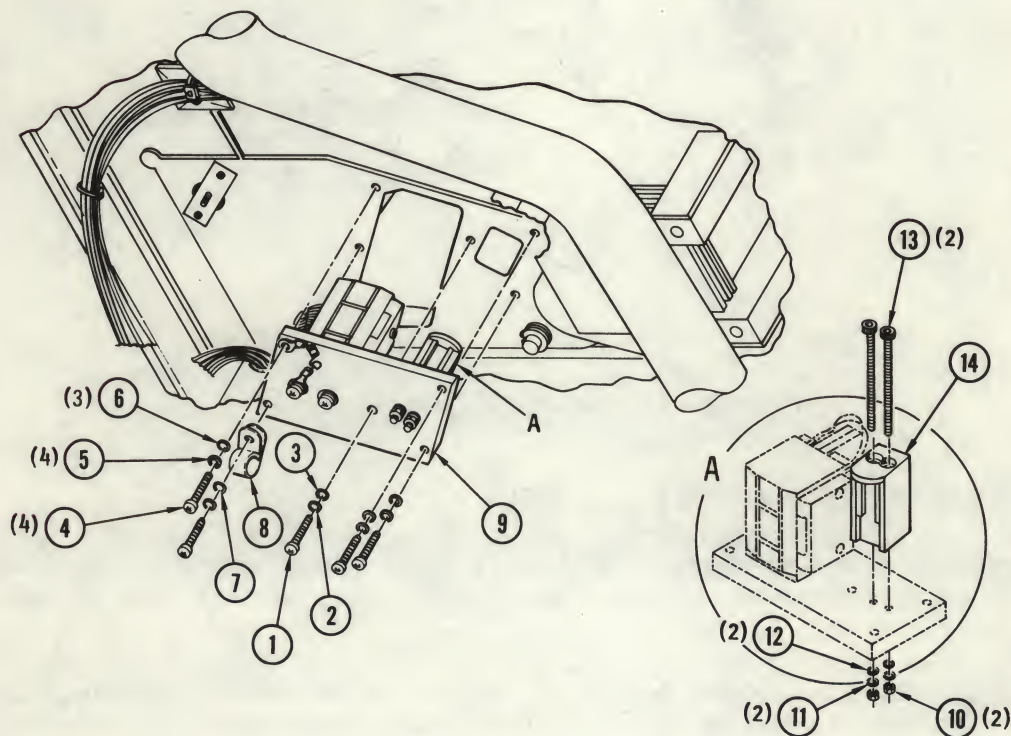

Figure 4-10. Head Assembly
4-24. **Removal and Replacement of Assembly and Parts (Figure 4-10).** Place the transport in service access position in accordance with instructions in paragraph 4-3 and proceed as follows:
It is not necessary to remove complete assembly from top plate in order to remove tape scraper (14, Figure 4-10). Refer to paragraph 4-24, f. If head is defective and in need of replacement, entire head assembly (9), including tape scraper (14) must be replaced.
- b. Working from under side of top plate, remove center adjustment screw (1), lockwasher (2), flat washer (3), four screws (4), and lockwashers (5), three flat washers (6), one flat washer (7), and cable clamp (8) supporting assembly (9) with one hand as last screw is removed. Identify wire terminal and cable clamp as to position from which removed, and save attaching parts for reinstallation.
- c. Pull assembly (9) and wire harness carefully down through hole in top plate and cables over air intake tube.
- d. Install replacement assembly in reverse order of sequence in steps b and c, carefully pushing head and connectors through hole in top plate and attaching wire terminal and cable clamp in positions from which removed. Do not tighten center adjustment screw (1) at this time.
- f. If tape scraper (14) only is to be replaced, remove two socket-head screws (13), nuts (10), lockwashers (11), and flat washers (12). Save attaching parts for reassembly, and install replacement scraper in reverse order of removal.
- g. Adjust tape scraper (14) as follows:
- (1) Insert and load a tape.
- (2) Loosen socket-head screws (13) and move tape scraper away from tape.
- (3) Slowly move tape scraper toward tape until it contacts tape.